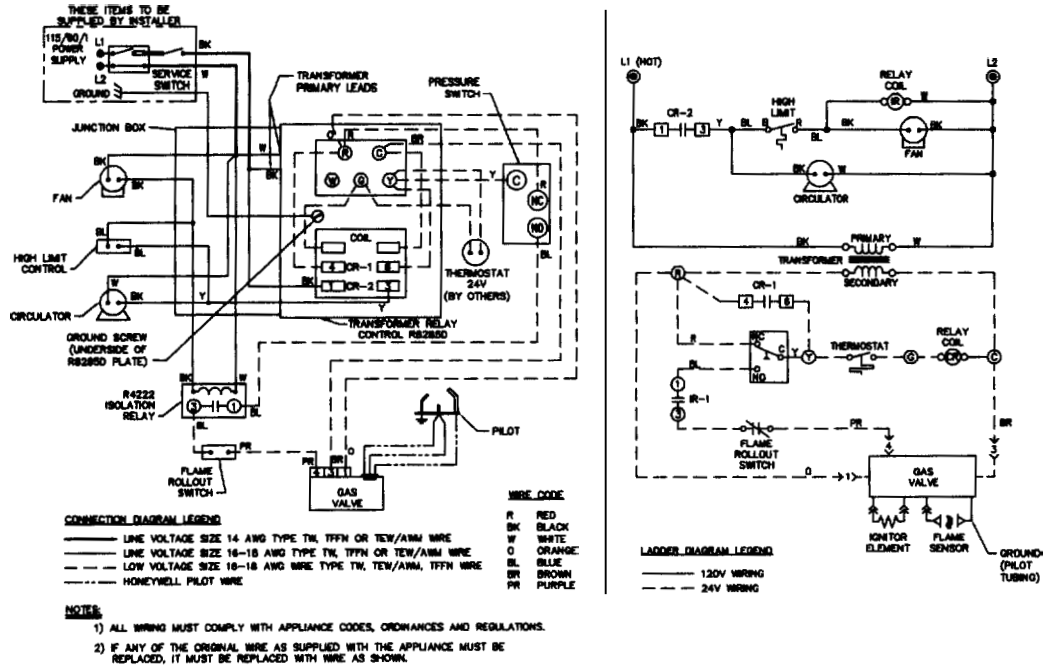
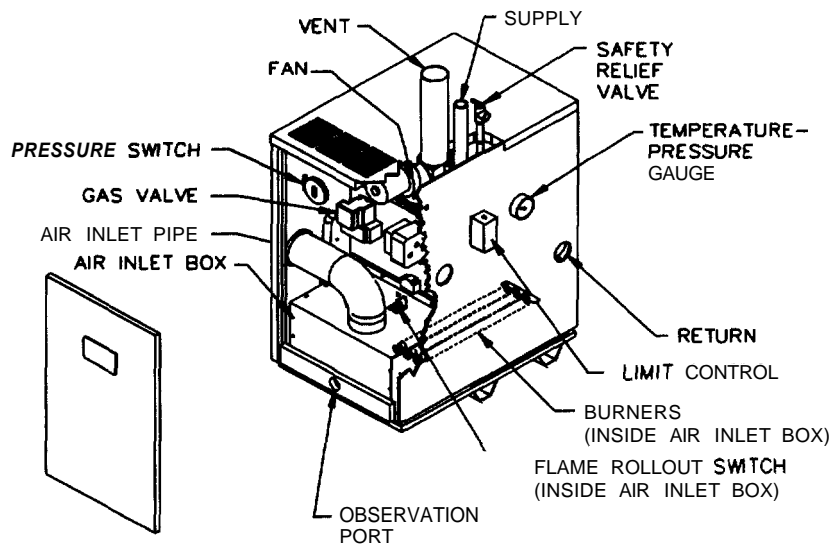

Figure 15: Wiring and Connection Diagram
Figure 14: Wiring, Controls and Safety Devices
1. See Figure 14 for location of wiring and controls. Use Figure 15 to connect the boiler to a power supply and to connect components to the boiler.
1. For proper location of controls and accessories refer to Figure 14.